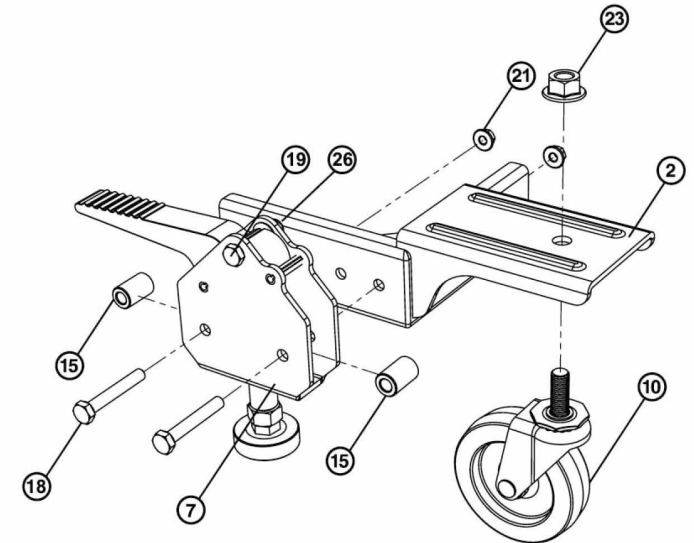

FIG 4
2. Attach Foot Housing Assembly (7) to the (1) Bracket A Right using (2) (18) M6 x 40N bolts and (2) (21) Nuts. Make sure (2) (15) Spacers are installed in the Housing assembly and that the (18) bolts pass through the Spacers. For proper orientation, refer to Figure 4.
3. Attach swivel caster (10) to Bracket A (2) using (1) (23) M10 nut.
4. Spin one (24) M10 nut onto the top of the threaded rubber foot (11). Insert threaded rubber foot (11) into the threaded hole on the bottom of (7) Foot housing assembly.
5. Repeat steps 1 through 4 on the Bracket A Left (2).
6. Slip wheel (9) into position on left and right corners ((3) and (4)). Refer to Figure 4.
7. Insert (20) M8 x 45 bolt through hole in the outer edge of wheel housing (4) through wheel (9), through nylon bushing (16), and secure to corner using (25) self-locking nut. Use care not to over tighten. Over tightening will prevent the wheel from turning.